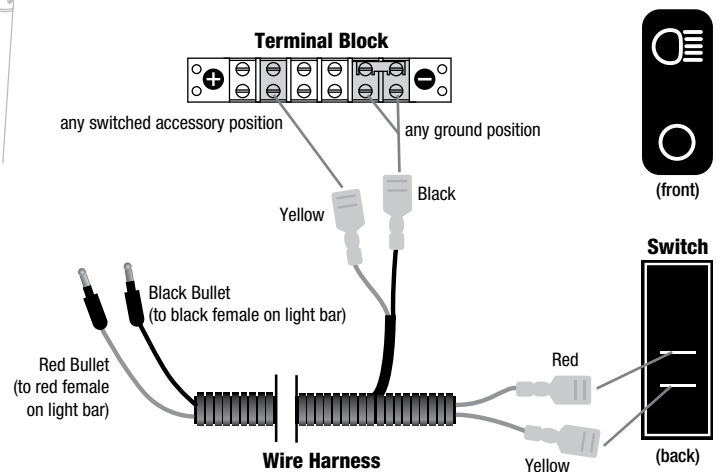

Fig. 2
- Connect end spade connections to mounted on/off switch as shown in figure 2.